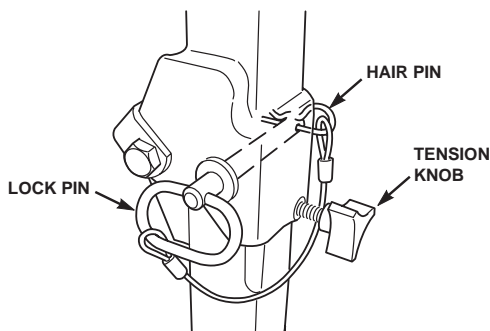

Figure 2-2. ROPS Hinge
2. Remove the hairpin cotter pins and remove the two (2) lock pins. See Figure 2-2.
5. Install the two (2) lock pins through the hole, secure with the two (2) hairpin cotter pins and tighten the tension knobs. See Figure 2-2. Remove the seat belt from the retainer brackets.